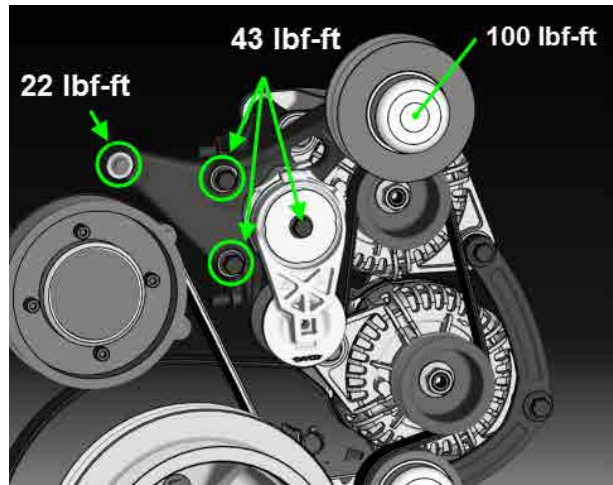

FIGURE 28
20. Reinstall the A/C compressor idler pulley bracket assembly (FIGURE 28). Apply Loctite 243 on threads. Reinstall the A/C compressor belts.